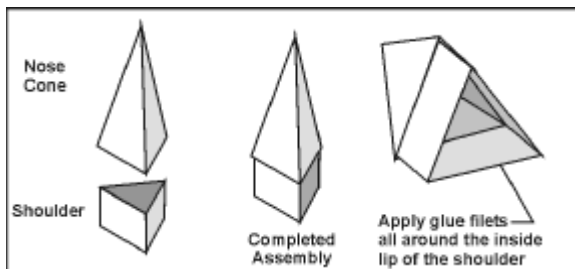

Figure 10
- Returning to the Nose Cone and Shoulder from Step 7, place a bead of glue along one end of the Shoulder, along all 3 edges, and glue this inside the bottom of the Nose Cone, as shown in **Figure 10**. Be sure that it is evenly recessed inside the base of the Nose Cone so that the cone stands straight up when set on the table. Using your finger, apply a filet of glue on the inside of the Nose Cone where the Shoulder comes into contact with it. Set aside to dry.